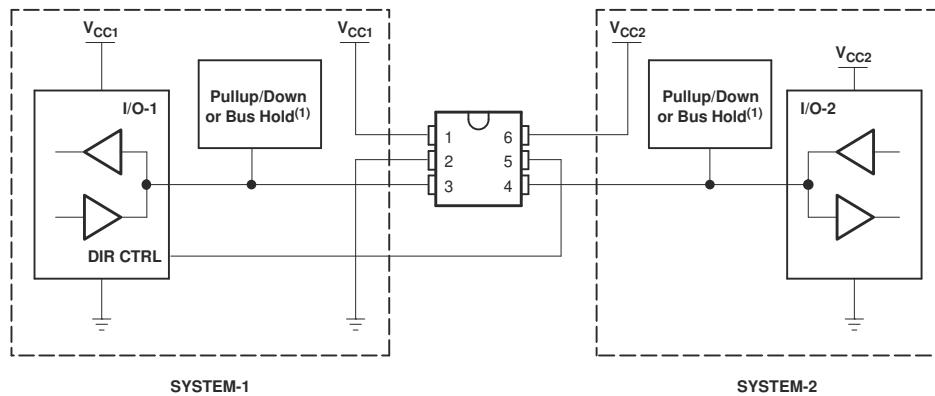

图 9-3. Bidirectional Logic Level-Shifting Application
图 9-3 shows the SN74LVC1T45 being used in a bidirectional logic level-shifting application. Because the SN74LVC1T45 does not have an output-enable (OE) pin, the system designer should take precautions to avoid bus contention between SYSTEM-1 and SYSTEM-2 when changing directions.